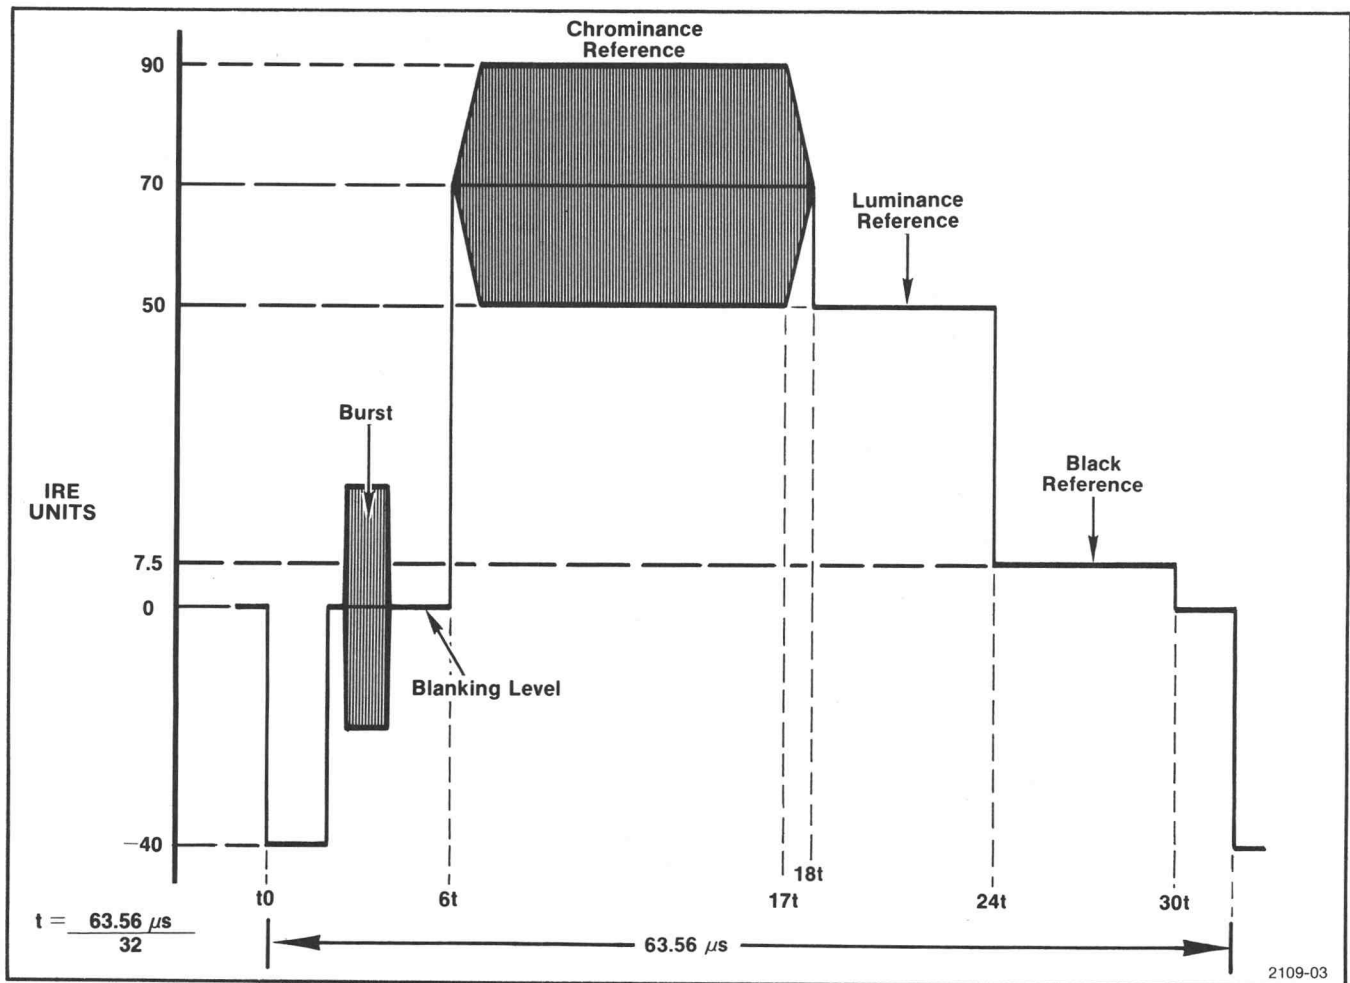

Fig. 1-5. VIRS timing details.
b. Check—Refer to Fig. 1-5 (in the Operating Instructions section) for timing details.